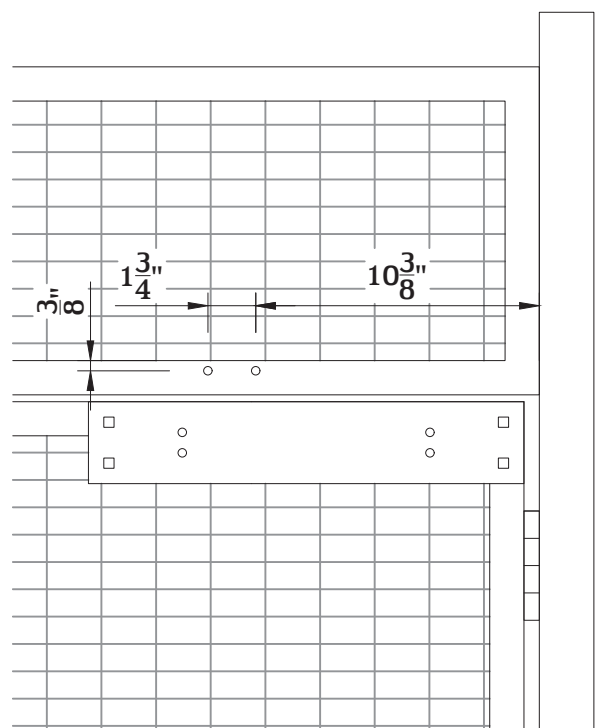

Fig.1
1. Position closer plate as shown above in Fig.1 or Fig.2. Mark the square holes and then drill  $\frac{3}{8}$ " $\varnothing$  holes in face of door. Two bolts are required. Some wires may need to be cut on the inside to clear these holes. Use carriage bolts provided by WireCrafters to secure plate to door or transom.
2. Drill  $\frac{5}{16}$ " $\varnothing$  holes as show above in Fig.1 or Fig.2 for closer arm. Mount closer with hardware provided by WireCrafters and follow manufactures instructions.